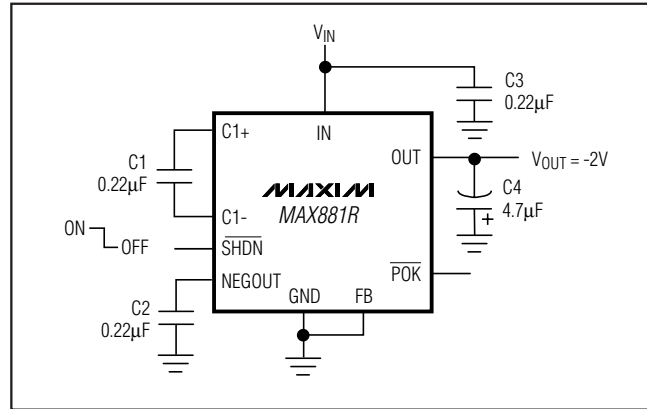

Figure 3a. Standard Application Circuit for Minimum Capacitor Values
**OUTPUT NOISE AND RIPPLE (CIRCUIT OF FIGURE 3a)**
**OUTPUT NOISE SPECTRUM (CIRCUIT OF FIGURE 3a)**
C1, C2, and C3 should be  $0.22\mu F$  capacitors with less than  $0.4\Omega$  ESR. C4 should be a  $4.7\mu F$  capacitor with less than  $0.1\Omega$  ESR. Larger capacitor values can be used ( $C1 = C2 = C3 = 1\mu F$ ,  $C4 = 10\mu F$ ) to reduce output noise and ripple ( $1mVp-p$ ), at the expense of cost and board space. All capacitors should be either ceramic or surface-mount chip tantalum (Figures 3a and 3b).